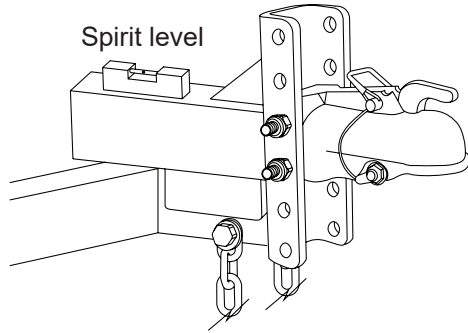

Fig. 9
2. Place a spirit level on the tongue behind the coupler channel (Fig. 9).